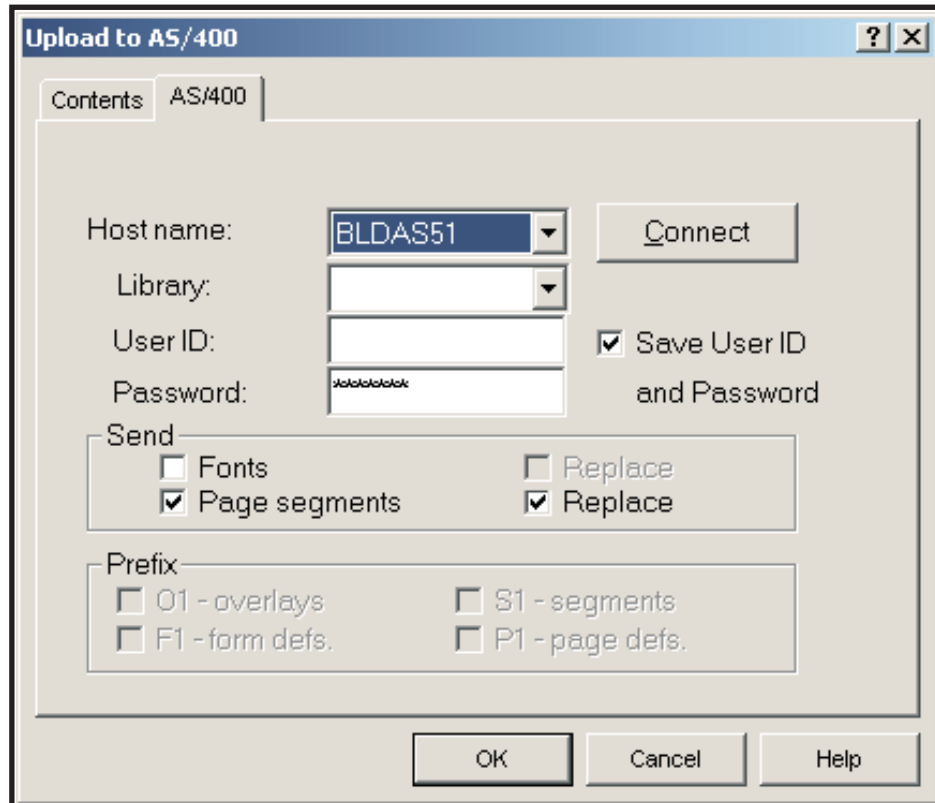

Figure 132. Upload to AS/400 Dialog, AS/400 Connection Page
- To upload the project to the iSeries, click **File** and select **Upload to AS/400**. The **Upload to AS/400** dialog opens. On the **Contents** page, select **Whole project** so that all the project resources (overlays, images, page definition, and form definition) that have been created based on your design will be uploaded and compiled. Open the **AS/400** page to verify your connection information, as shown in Figure 132 on page 213. Ensure that **Page segments** is selected so the Super Sun Seeds logo file is sent to your system as well as the resources you created. Click **OK**. A series of messages show the file transfer status.